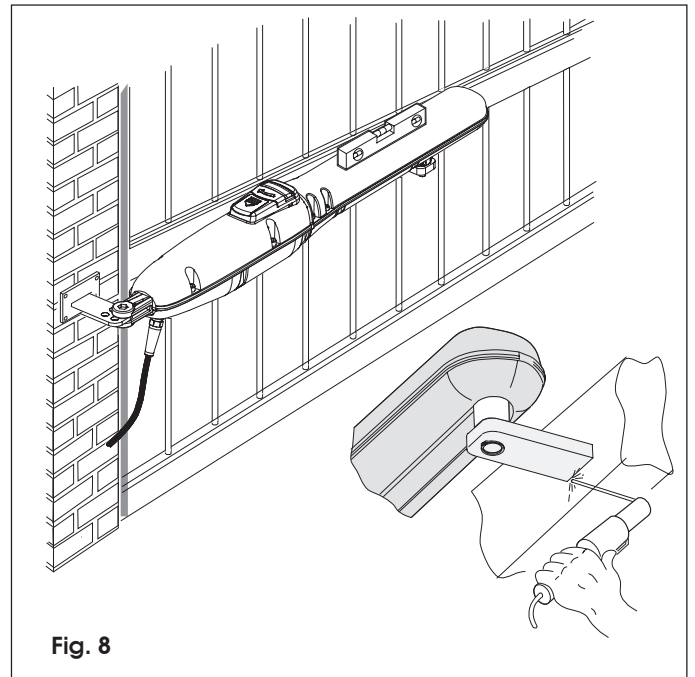

Fig. 8
- 5) Close the gate leaf and, holding the operator in a perfect horizontal position, locate the front bracket securing point on the leaf (Fig. 8).
- 8) Completely weld the front bracket on the leaf (Fig. 8). To do this, temporarily release the operator from the fitting in order to avoid that welding slag damage it.